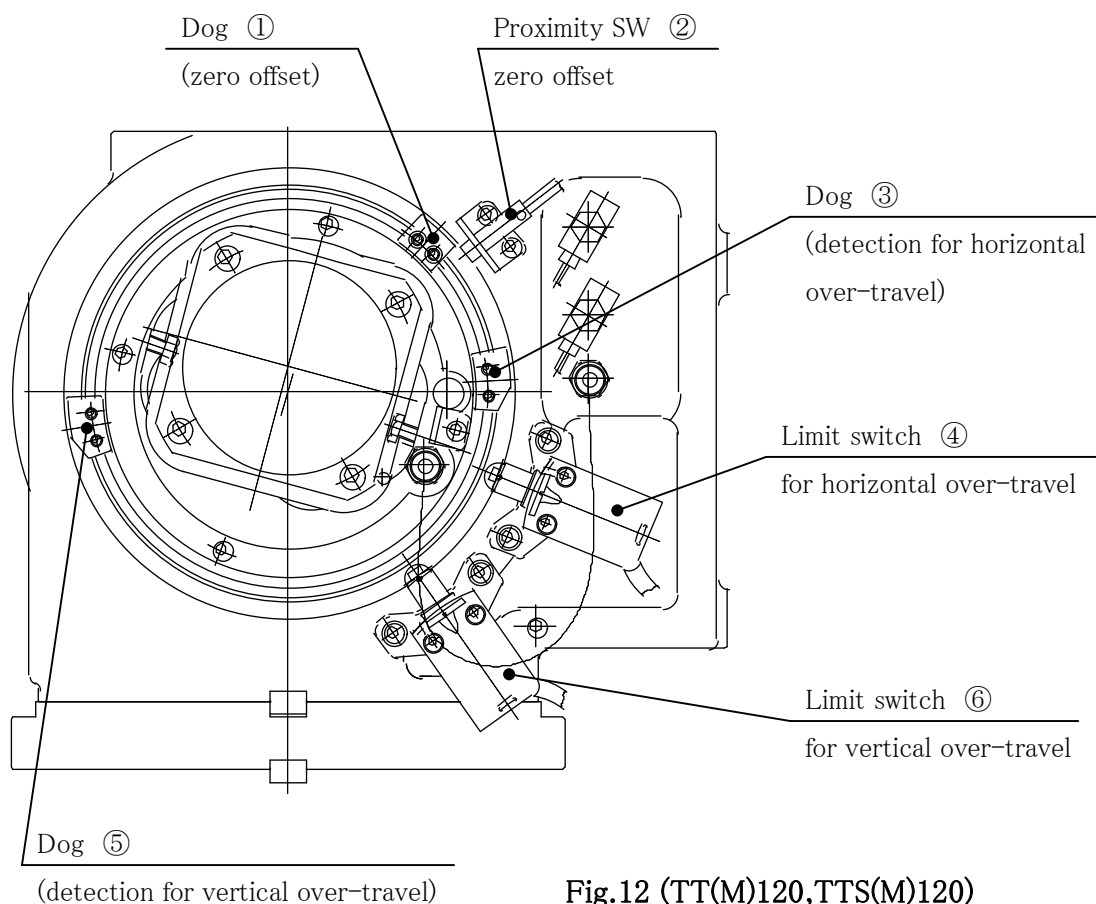

Fig.12 (TT(M)120,TTS(M)120)
**10-3-3. Tilting axis ZRN device (See Fig.12: TT(M)120,TTS(M)120)**
- 2) The horizontal table face is the datum as the standard specification. The dog ① of Fig.12 is detected with the proximity switch ②.
(TT(M)120, TTS(M)120: See Fig.12)
- 2) The dog ③ of Fig.12 located on the stroke limit on the horizontal table face position is detected with the limit switch ④.
- 3) The dog ⑤ located on the stroke limit on the vertical table face position is detected with the limit switch ⑥.